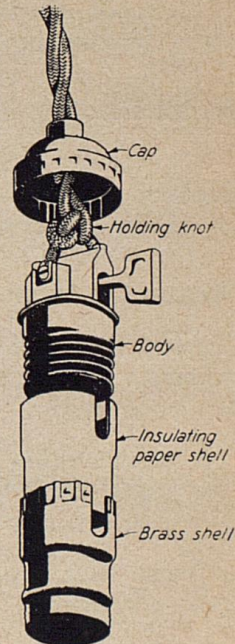

Fig. 15
1. Follow directions shown in Fig. 15 to attach socket.